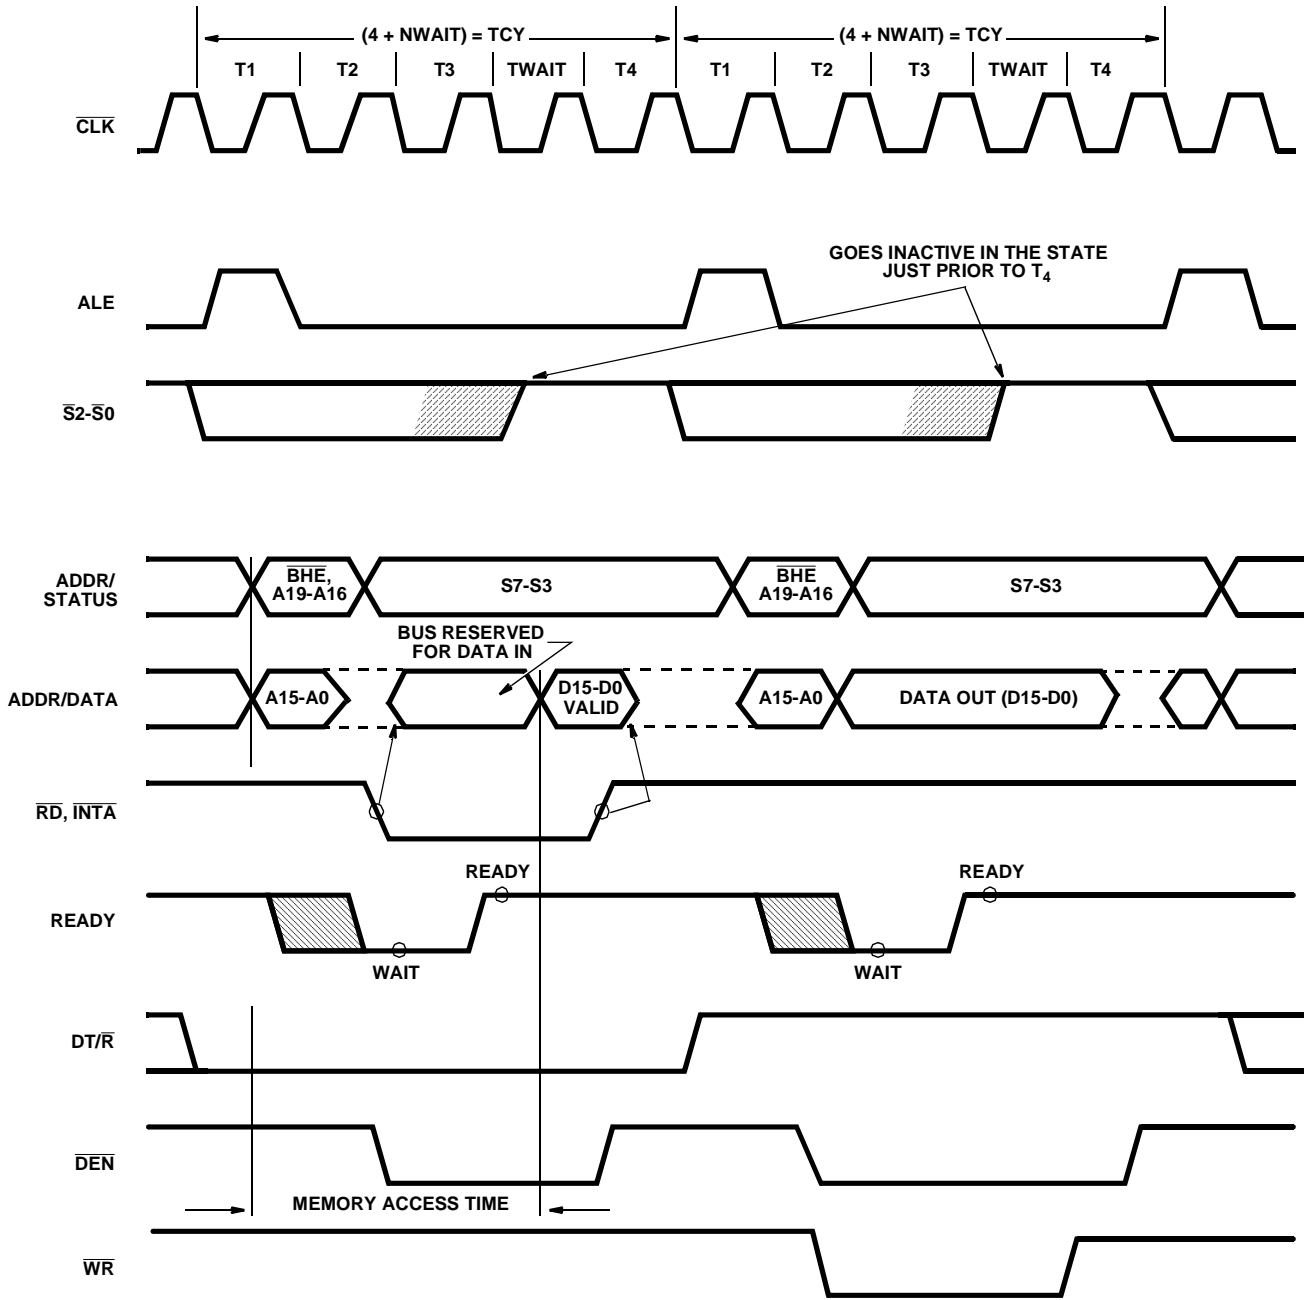
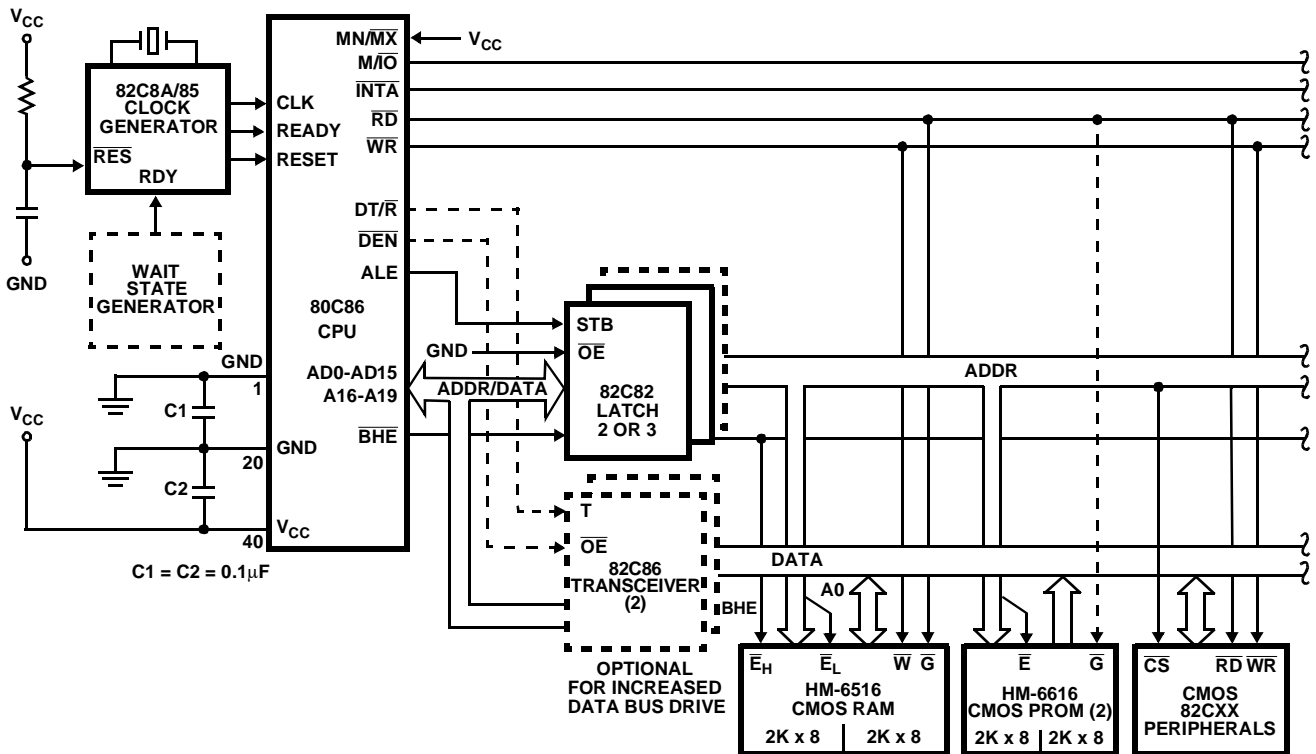

FIGURE 3. BASIC SYSTEM TIMING
FIGURE 6A. MINIMUM MODE 80C86 TYPICAL CONFIGURATION
Each processor bus cycle consists of at least four CLK cycles. These are referred to as T1, T2, T3 and T4 (see Figure 3). The address is emitted from the processor during T1 and data transfer occurs on the bus during T3 and T4. T2 is used primarily for changing the direction of the bus during read operations. In the event that a "NOT READY" indication is given by the addressed device, "Wait" states (TW) are inserted between T3 and T4. Each inserted wait state is the same duration as a CLK cycle. Periods can occur between 80C86 driven bus cycles. These are referred to as idle" states (T_i) or inactive CLK cycles. The processor uses these cycles for internal housekeeping and processing.
Typical system configurations for the processor operating in minimum mode and in maximum mode are shown in Figures 6A and 6B, respectively. In minimum mode, the MN/MX pin is strapped to VCC and the processor emits bus control signals (e.g. $\overline{\text{RD}}$, $\overline{\text{WR}}$, etc.) directly. In maximum mode, the MN/MX pin is strapped to GND and the processor emits coded status information which the 82C88 bus controller uses to generate MULTIBUS compatible bus control signals. Figure 3 shows the signal timing relationships.